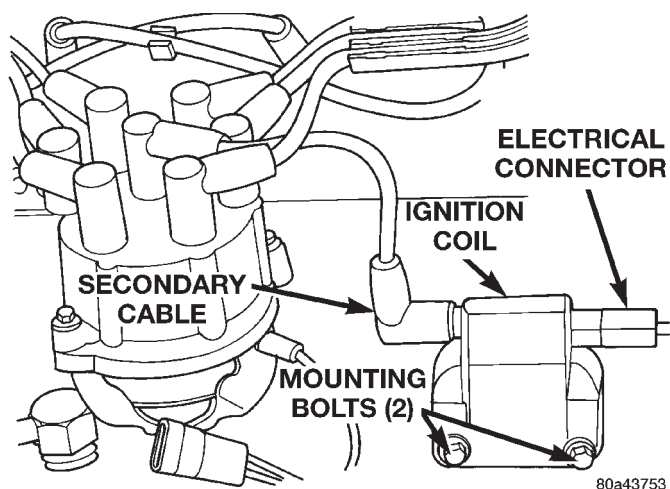

Fig. 28 Ignition Coil—4.0L Engine
The ignition coil is mounted to a bracket on the side of the engine to the front of the distributor (Fig. 28).
- (1) Disconnect the ignition coil secondary cable from ignition coil (Fig. 28).
- (2) Disconnect engine harness connector from ignition coil.
- (3) Remove ignition coil mounting bolts (nuts may also be used on back side of bracket).
- (4) Remove coil.